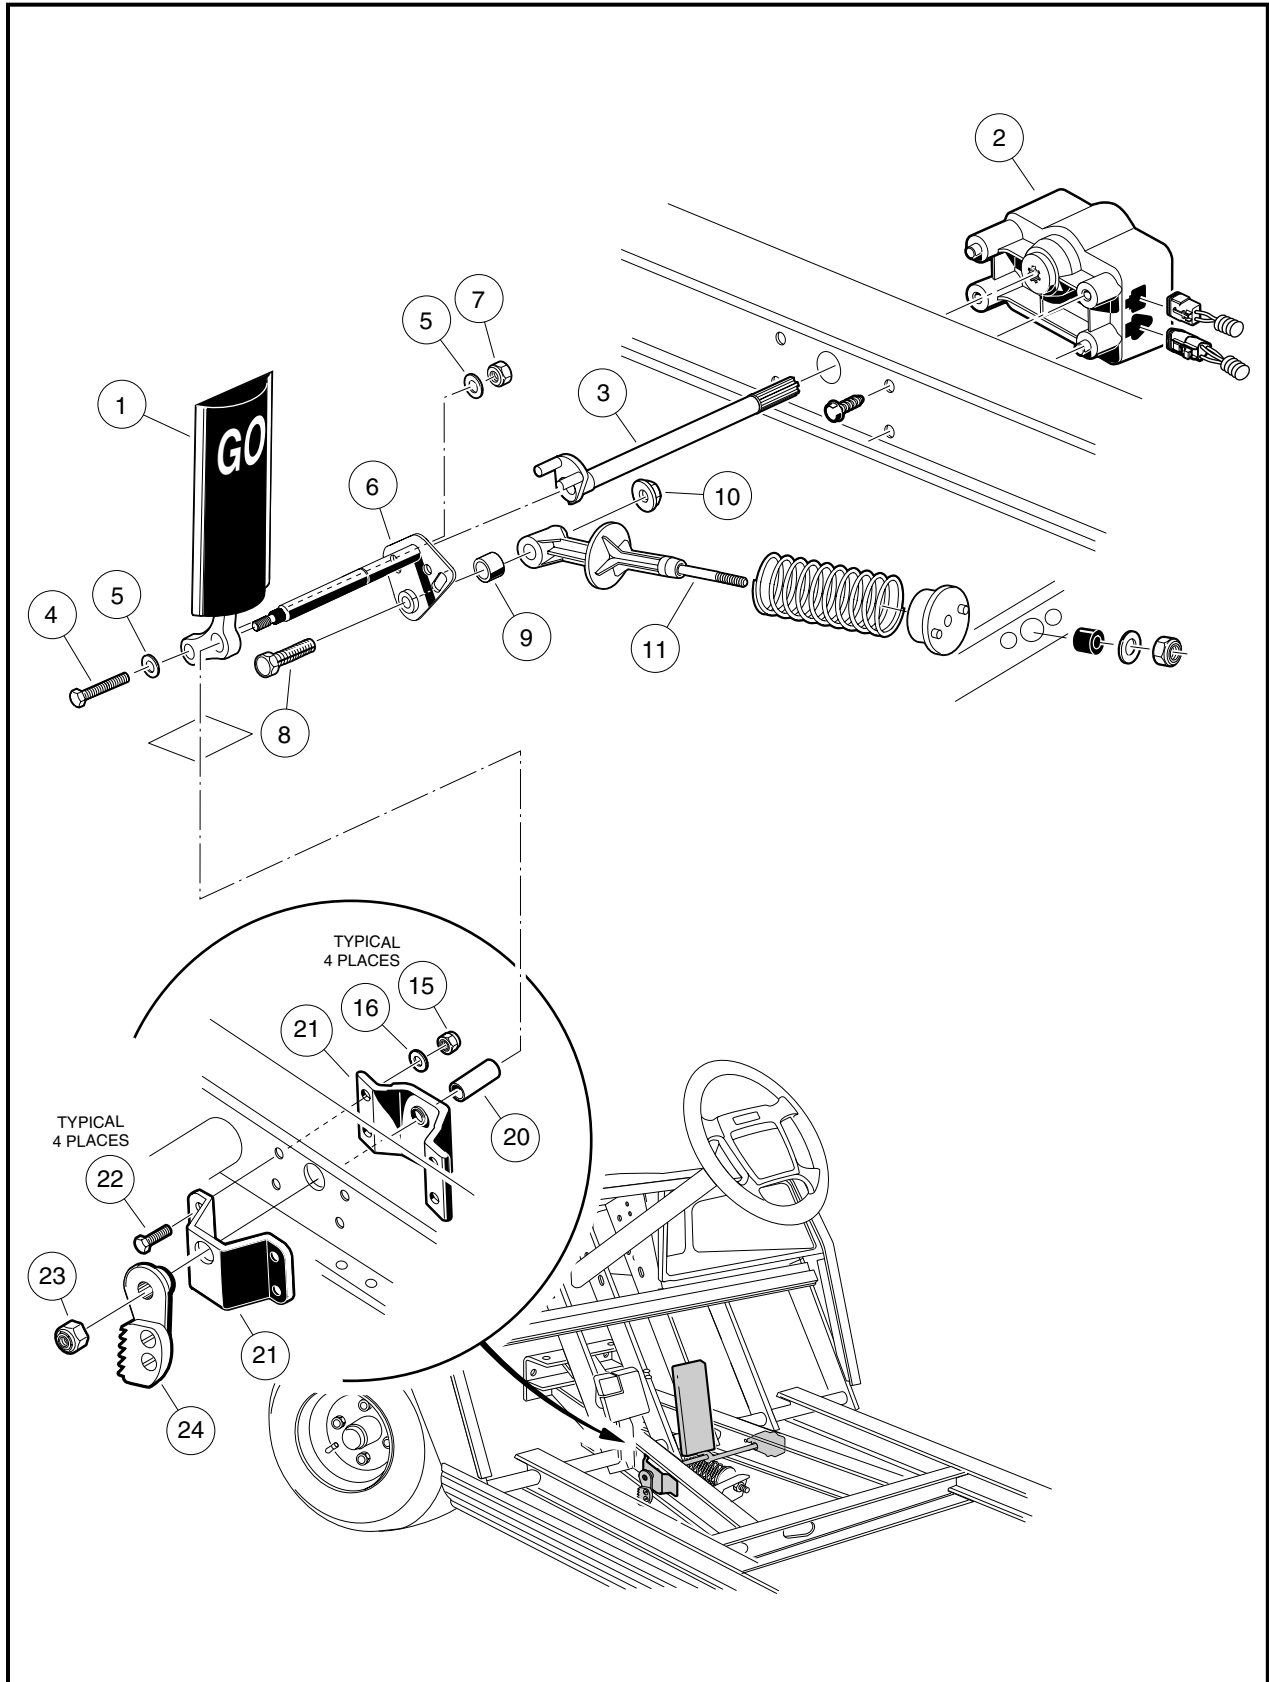

Figure 5-9 Accelerator Pedal – Electric Vehicle with MCOR
3. Remove the MCOR (2) and drive bar (3) as instructed (**Figure 5-9, Page 5-15**). See **MCOR Removal, Section 12, in the PowerDrive Maintenance and Service Supplement**.
4. Using a 9/16-inch socket and 9/16-inch wrench, remove the nut (7), two washers (5), and bolt (4) securing the accelerator pedal (1) to the pivot rod (6) (**Figure 5-9, Page 5-15**).
5. Remove the nut (10) and bolt (8) from the accelerator pivot rod assembly (6).
6. Slide the spring retainer (11) off of the accelerator pivot rod.
7. Inspect the pivot support bearing (9) for wear and replace if necessary.
8. Use a marker to mark the position of the park brake ratchet (24) on the accelerator pivot rod (6). See **following NOTE**.
9. Remove the lock nut (23) from the accelerator pivot rod.
10. Depress the brake pedal slightly and slide the park brake ratchet (24) toward the end of the accelerator pivot rod. Rotate the ratchet and remove it from the pivot rod.
11. Remove the pivot rod (6) and spacer (20) from the accelerator pivot rod supports (21) (**Figure 5-9, Page 5-15**).
12. Inspect the accelerator pivot rod supports (21) for wear and damage and replace as necessary. If the pivot rod supports do not require replacement, loosen, but do not remove, the four bolts (22) and lock nuts (15) to make installation of the pivot rod easier.
13. Remove the accelerator pedal (1) from the vehicle (**Figure 5-9, Page 5-15**).
1. If the accelerator pivot rod supports were replaced, position the supports (21) on the vehicle frame and install the four bolts (22), flat washers (16), and lock nuts (15) (**Figure 5-9, Page 5-15**). finger-tighten nuts at this time.
2. Insert the lower end of the accelerator pedal (1) through the floorboard and install the accelerator pivot rod (6) through the uppermost hole in the pedal.
3. Install plastic spacer (20) on pivot rod (6).
4. Insert the pivot rod through the pivot rod supports (21) on the vehicle frame.
5. Tighten the four bolts (22) attaching the pivot rod supports to the frame to 75 in-lb (8.5 N·m) (**Figure 5-9, Page 5-15**).
6. Insert the bolt (4), two washers (5), and a new lock nut (7) through the lower hole in the pedal and through the pivot rod. Finger-tighten lock nut at this time.
7. Install the bolt (8) through the pivot rod (6) and spring retainer (11). Secure these parts with the nut (10) (**Figure 5-9, Page 5-15**). Tighten the nut to 50 in-lb (5.5 N·m).
11. Install lock nut (23) on pivot rod (**Figure 5-9, Page 5-15**). Tighten to 18 ft-lb (24.5 N·m).
12. Install the MCOR (2) and drive bar (3) as instructed. **See MCOR Removal, Section 12, in the Power-Drive Maintenance and Service Supplement.**